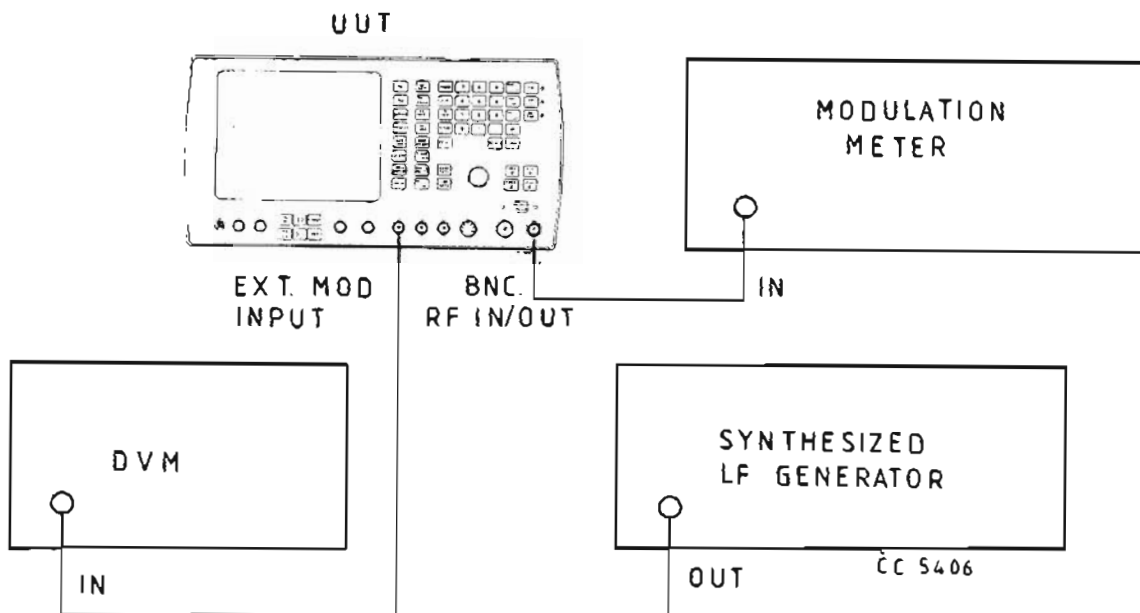

Fig. 24 Test equipment connections for r.f. generator external a.m. & f.m. performance checks
- (1) Connect the equipment as shown in Fig. 24.